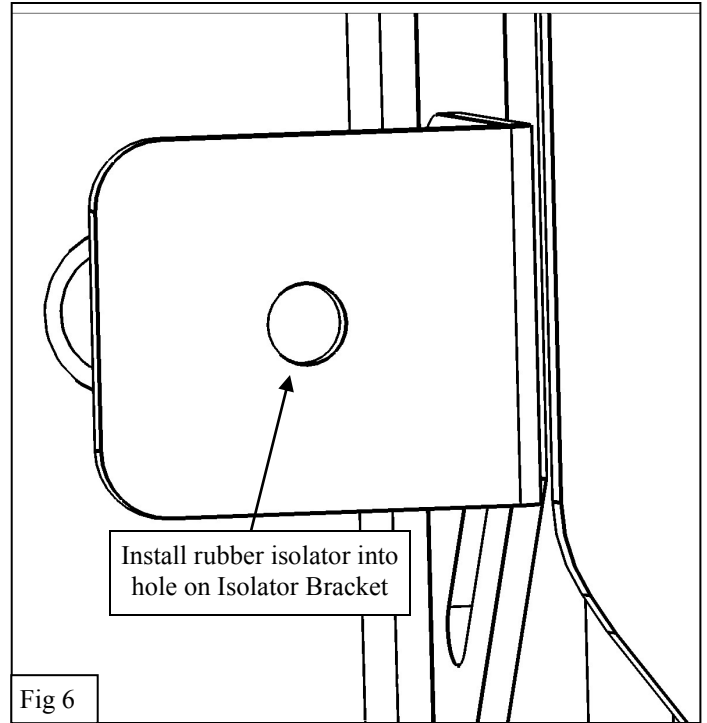

Fig 6
9. Reinstall the Rubber Isolators into the Isolator Brackets (2). See **Figure 6**.